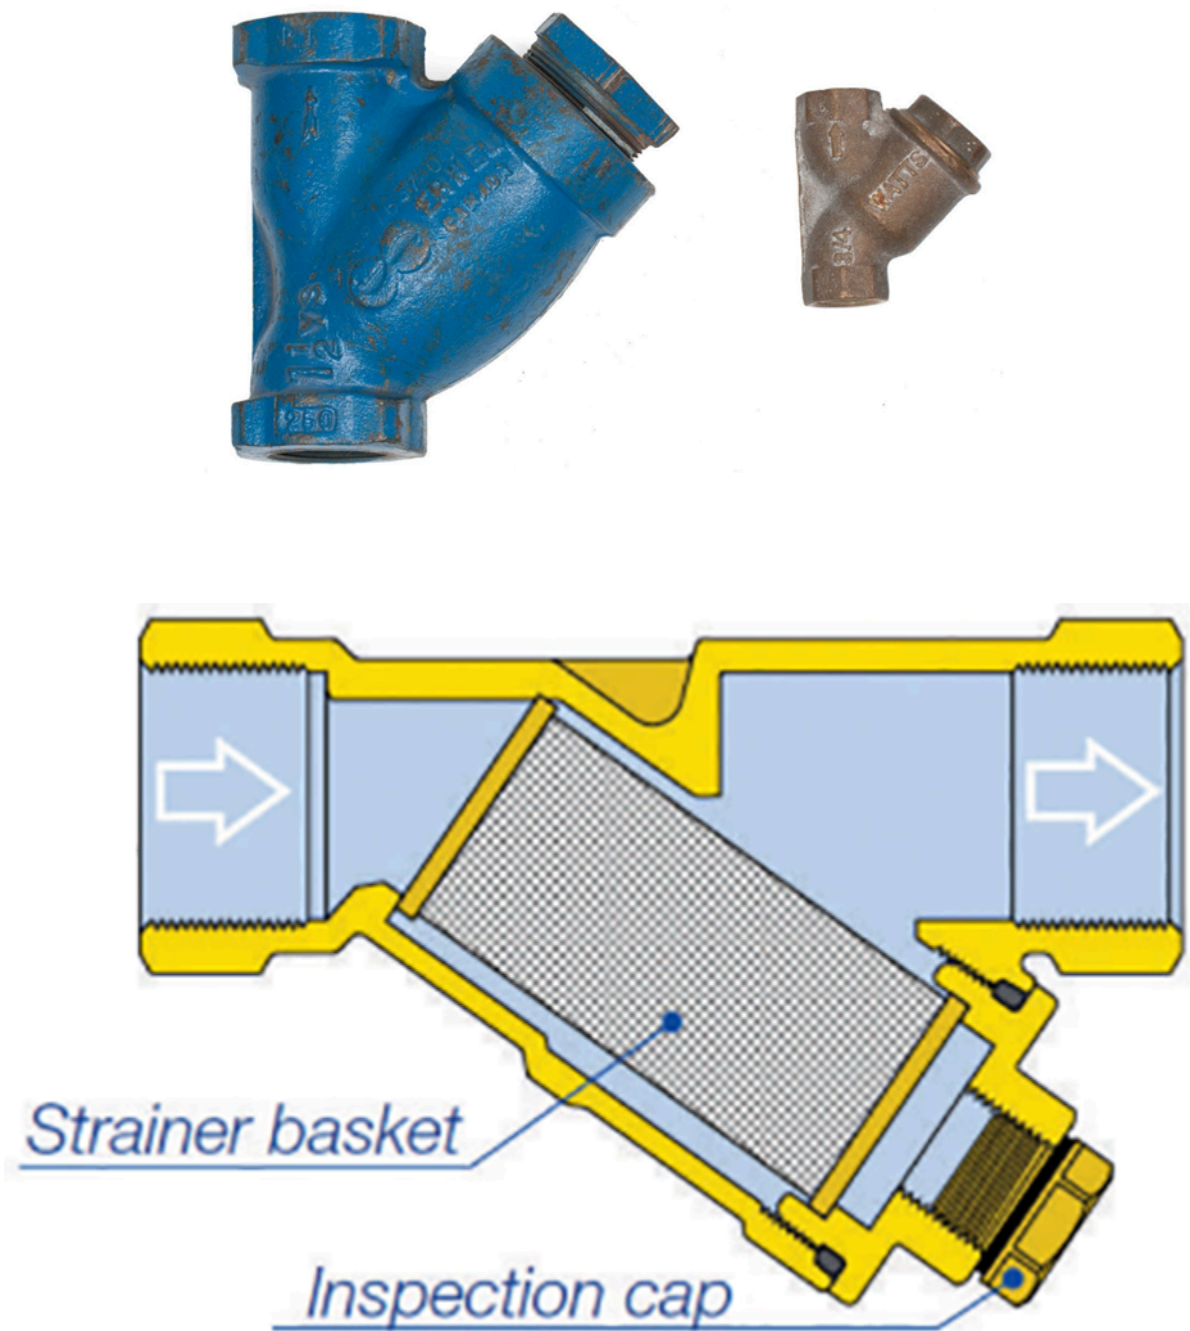

Figure 32 Y-strainer (top: Skilled Trades BC, 2021; bottom: Caleffi, idronicsTM, 2014). Caleffi S.p.A. All rights reserved. Used with permission.
This minimizes the chance of flushing debris in the piping through these components. After the initial debris flushing, a chemical cleaning solution can be added to systems by use of a flush pump cart connected to the purge valves (Figure 32).
- **Figure 32** Y-strainer [Figure 3-10] is by Caleffi Hydronic Solutions (2014, p. 19) in idronics™ and is used with permission.